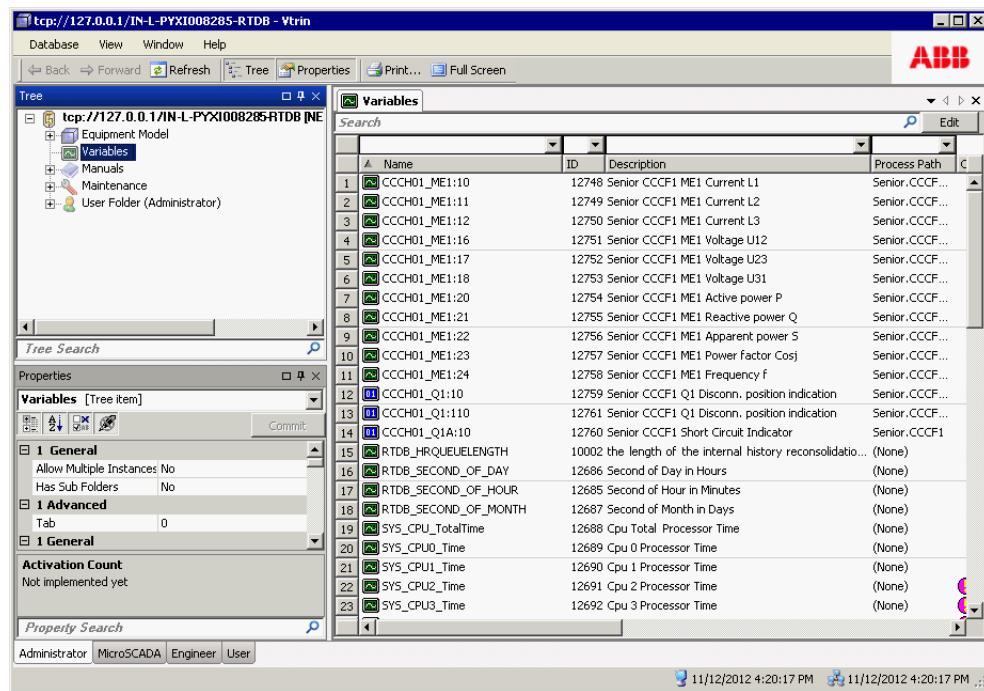

Figure 2: Tree Items window
- Open the Navigation Tree Items window (Figure 2) in the Maintenance/System/Vtrin folder.
Figure 2 illustrates that the parent folder of one of the items called Variable Lists is System. Variables Lists itself is a window of type Folder.